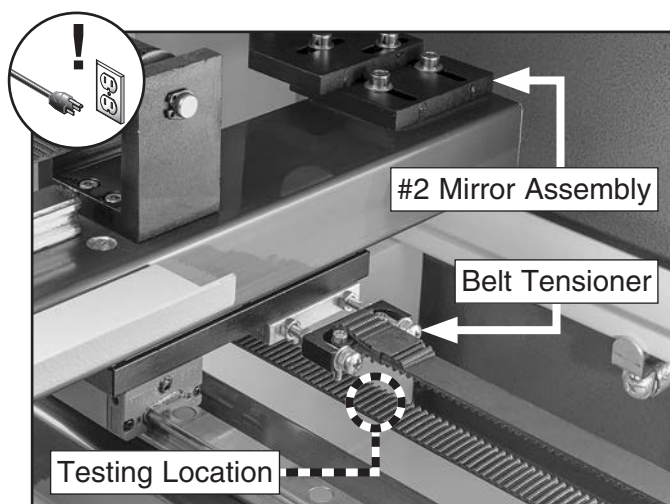

Figure 76. Right Y-axis belt deflection testing location.
3. Test for approximately 8mm of deflection on bottom side of Y-axis belt at its center (see **Figure 76**).